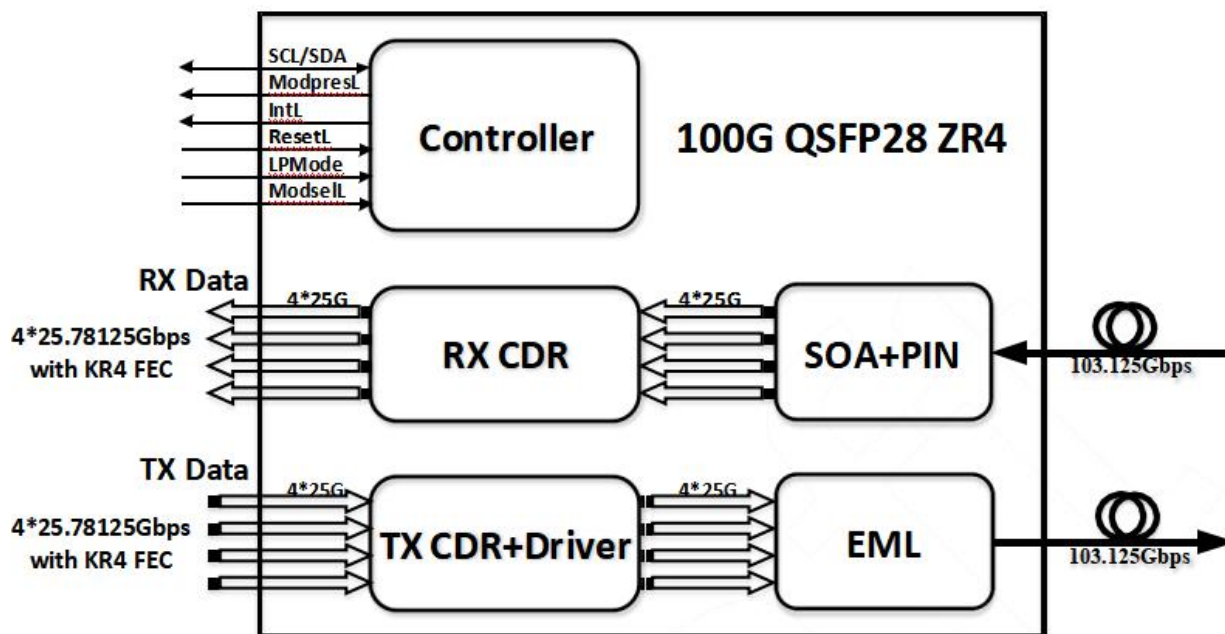

Figure 1. Transceiver Block Diagram
- ✧ TIBTRONIX's T8PLHGA0D is designed with metal protection for 100km optical communication applications. This module contains 4-lane optical transmitter, 4-lane optical receiver and module management block including 2 wire serial inter-face. The optical signals are multiplexed to a single-mode fiber through an industry standard LC connector. A block diagram is shown in Figure 1.